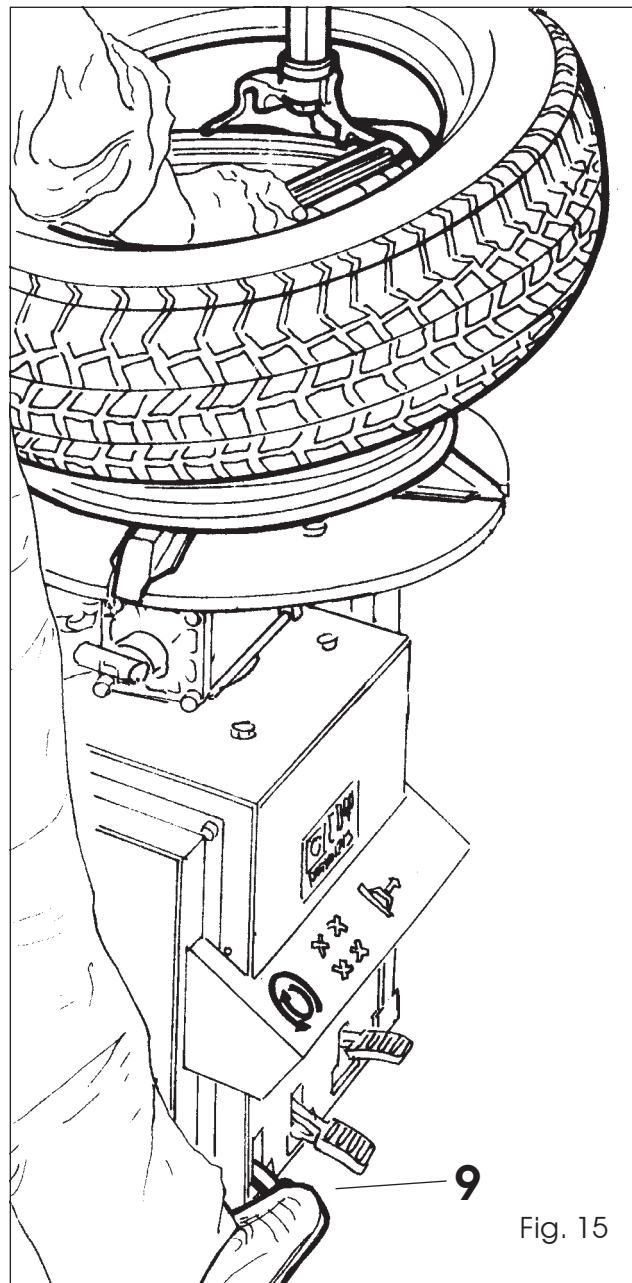

Fig. 15
- ❑ Depress table top pedal (9 - Fig.15) to turn the table top clockwise. The upper bead will be automatically guided up and over the edge of the rim. Repeat the procedure for the bottom bead. Move the swing arm clear and remove the tire.